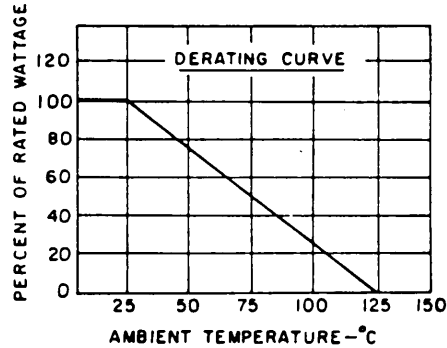

FIGURE 502-1. Power ratings and derating curve.
2.1.2 Power rating. Thermistors have a power rating based on continuous, full-load operation at an ambient temperature of +25°C. If thermistors are to be operated at temperatures exceeding +25°C, the thermistors must be derated in accordance with figure 502-1.